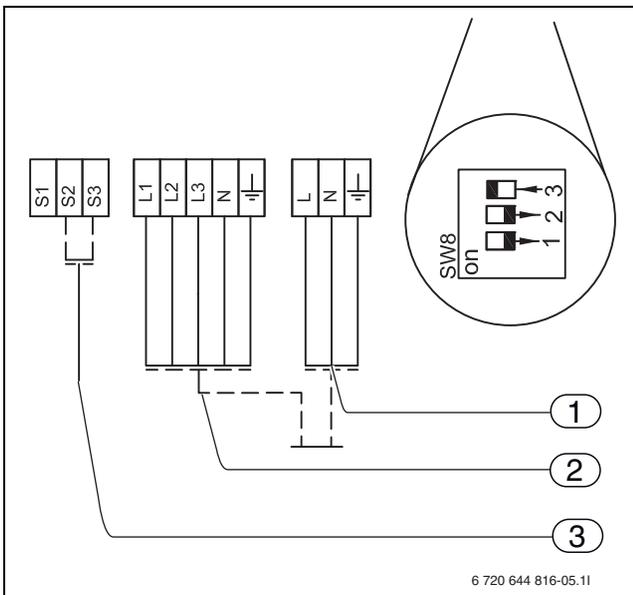

Fig. 32 Connection designations, outdoor unit
**WARNING:** SW8 at the printed circuit board of the outdoor unit must be set as follows: 3 = ON, 2 = OFF, 1 = OFF (→ fig. 32)
- ▶ Connect the cables according to fig 32, post-tighten all cable mountings.
SW8-3 must be set as shown in fig. 32.